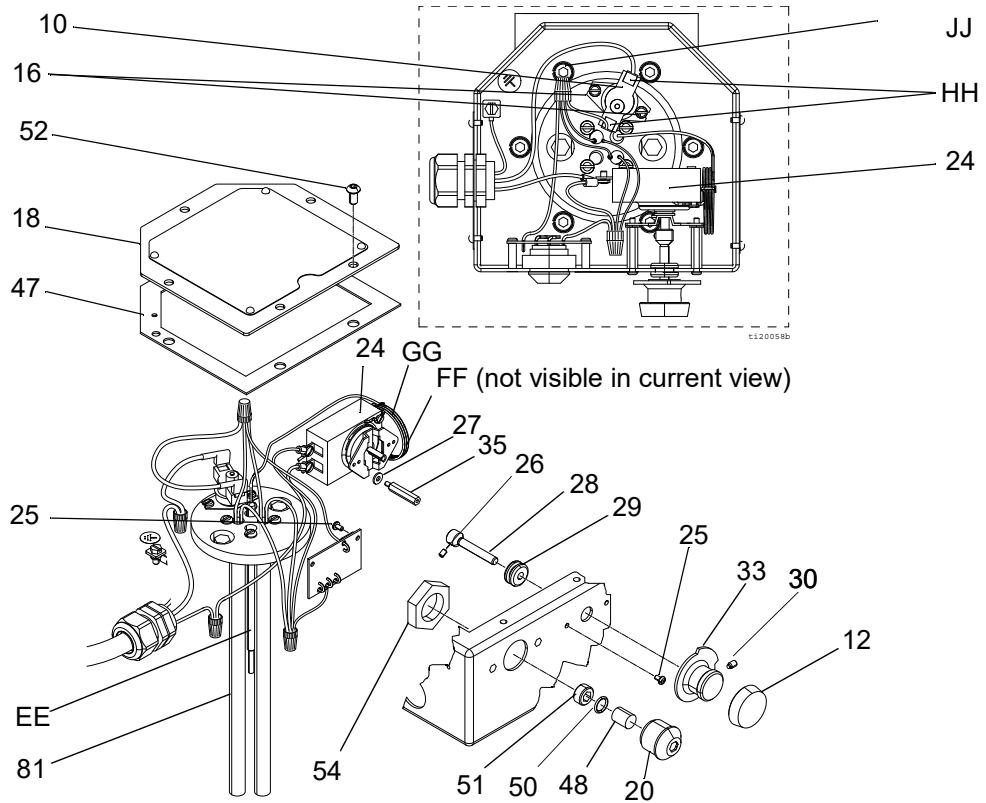
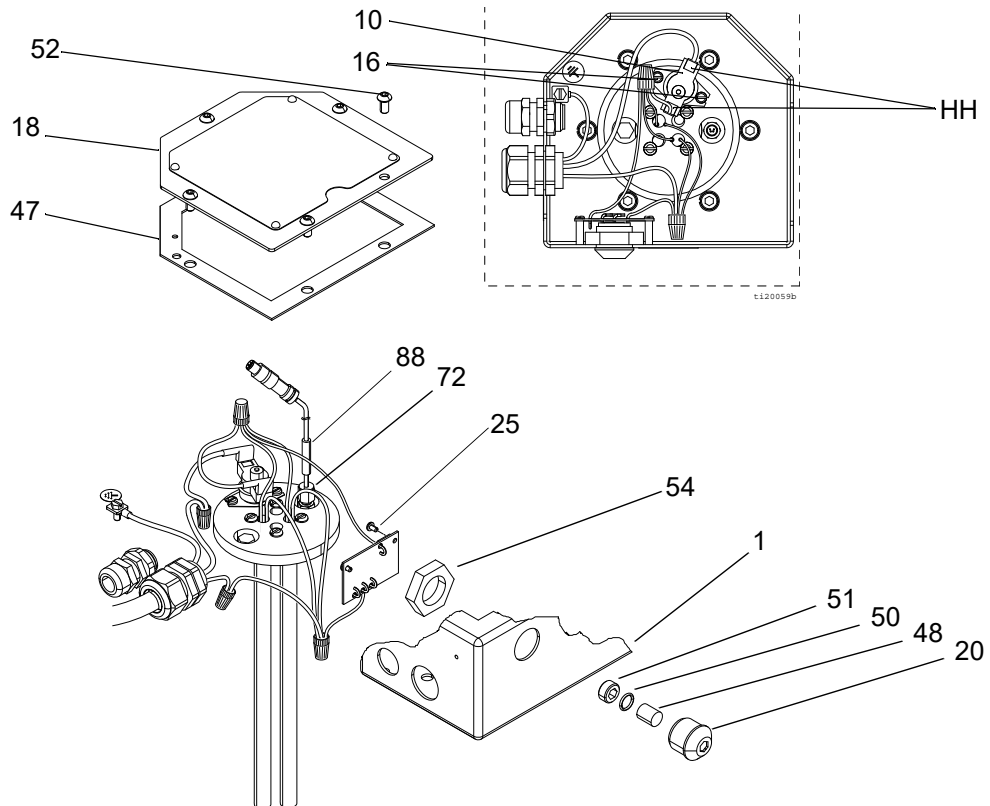

FIG. 12: Thermostat Repair
FIG. 13: RTD Sensor Repair
(For model with thermostat, see FIG. 12 on page 21)
- Refer to FIG. 12 or FIG. 13 on page 21 for wiring connections.
- **Model 262853 and 24W612 Only:** Make sure the core (68) is aligned with the plug (82) pin in housing (67).
- Make sure gasket (47) is installed and aligned with electrical housing screw holes.
- Secure cover (18) with screws (52). Torque screws to 85-90 in-lb (10 N•m).